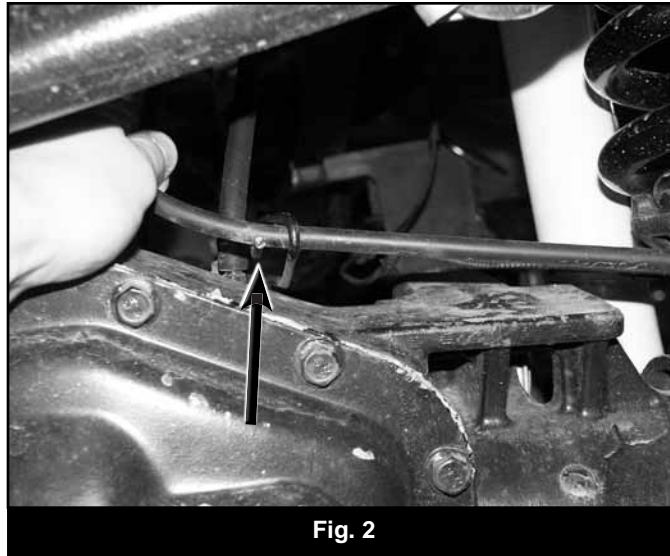

Fig. 2
14. 14. Free the hub vacuum lines from the axle (Fig 2, 3).